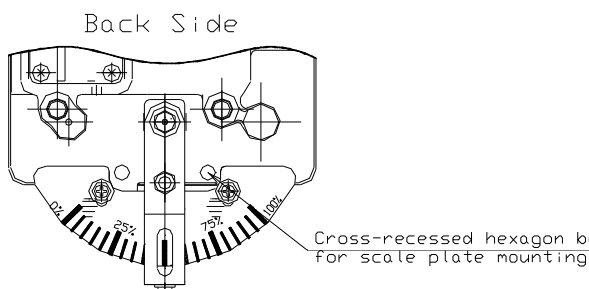

Fig.23. Scale plate (Back side)
- (3) At the end of start and stop of actuator, confirm needle points 0% and 100% of scale plate respectively. If the needle points others, position the needle by loosening cross recessed hexagon bolt holding scale plate with spanner and sliding the scale plate. (Refer to Figure 23, 24.)